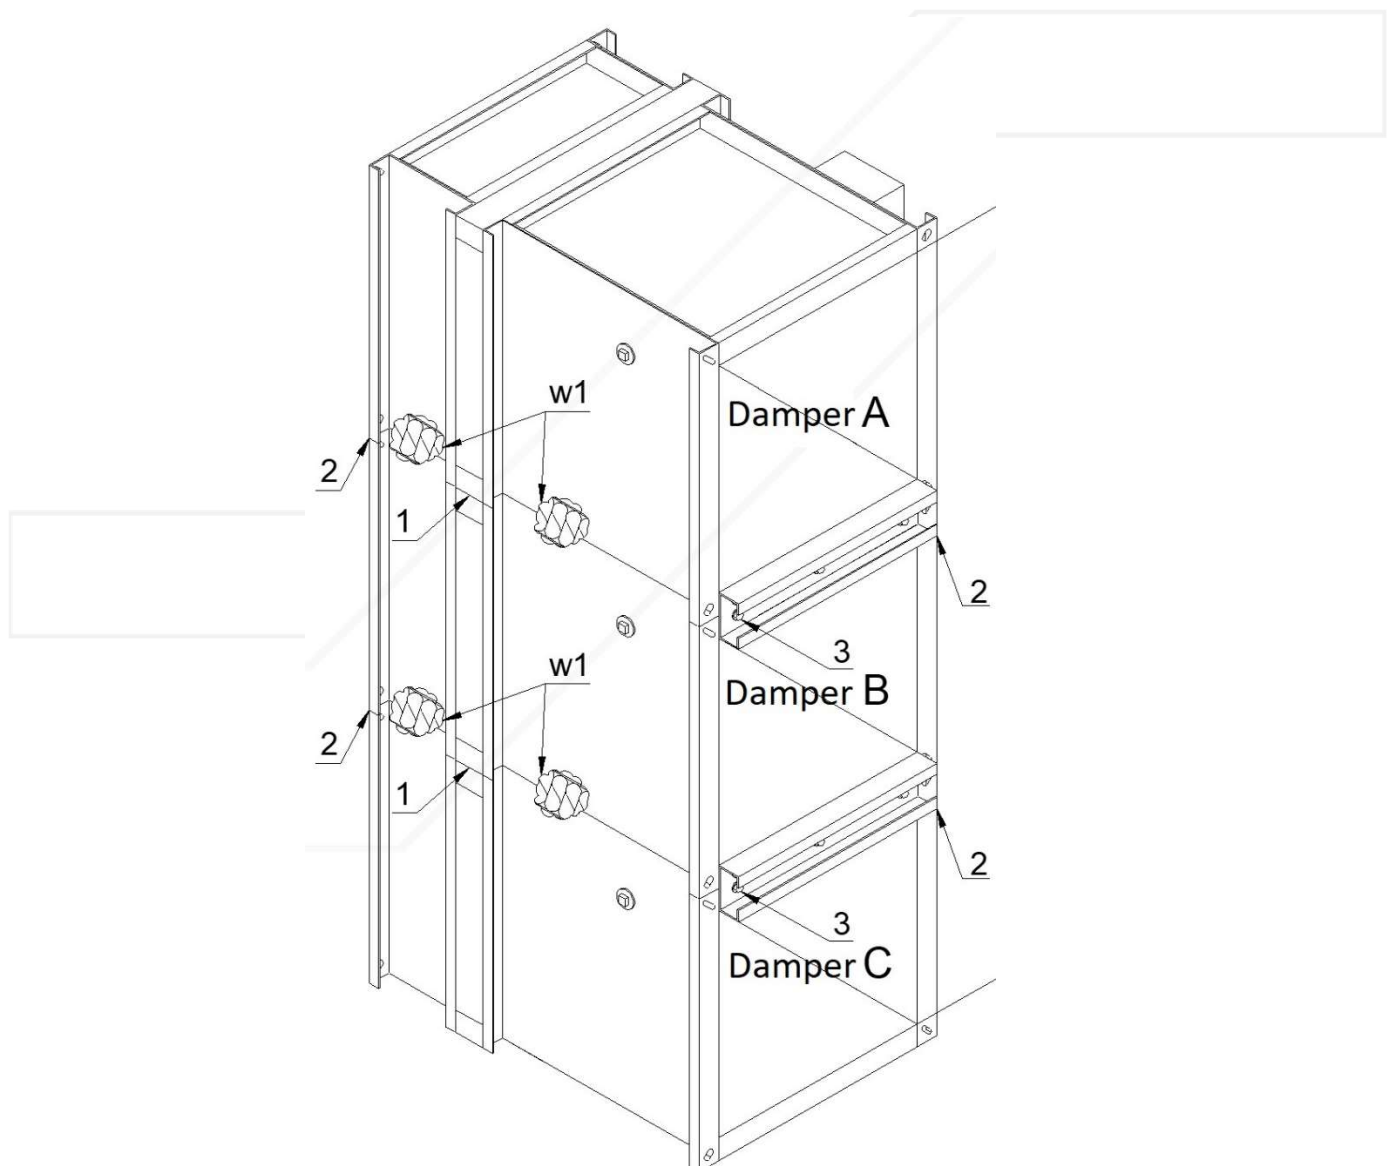

Figure 14. Arrangement 2 - vertical battery consisting of three fire dampers KWP
- a. Fix the PROMASEAL-PL gasket with a cross-section of 20×1.8 mm on insulating spacer of one of adjoining fire dampers (position (1) in the Figure 14).
- c. Place the fire damper B on the fire damper C and assemble them together on the front and back with use of perforated assembly strips (2) and self-tapping screws M6×10 (3), which should be tightened into the openings in fire damper body. In order to carry out the correct assembly, 4 self-tapping screws should be used per each assembly strip with length of 1200 [mm].